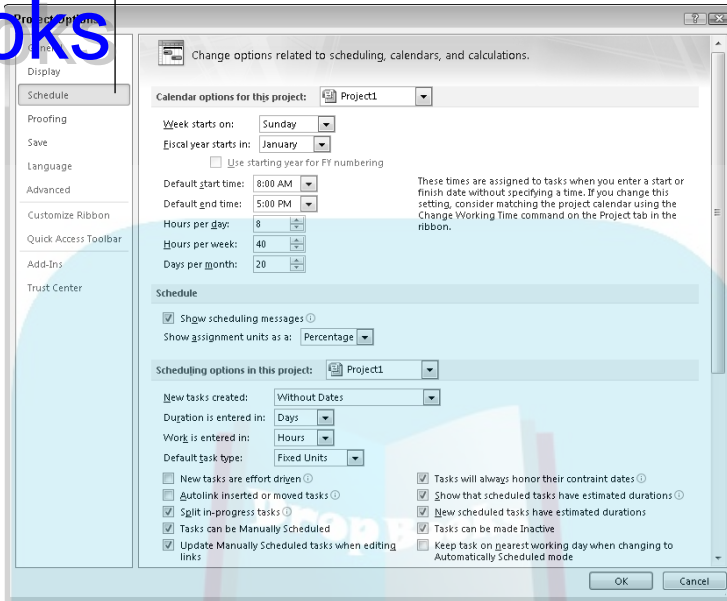

Figure 3-2:
- 2. Click Schedule, as shown in Figure 3-2.**